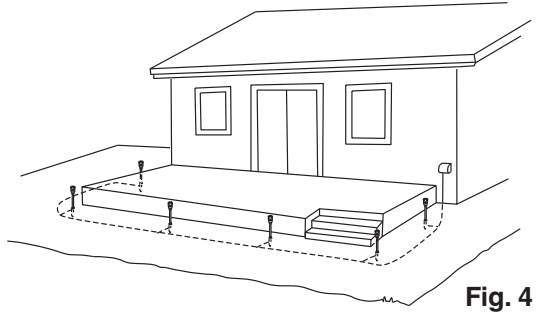

Fig. 4
1. Route the 65 feet of low voltage wire (connected to controller) around perimeter of desired protection area. (Fig. 4)